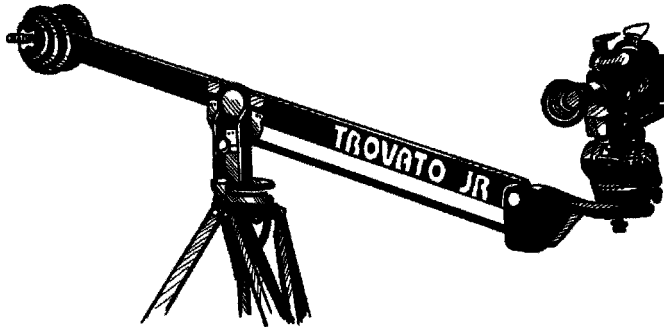

Figure 10.2 Trovato Jr. (Trovato Manufacturing, Inc.).
- **Trovato Jr.** (Figure 10.2)